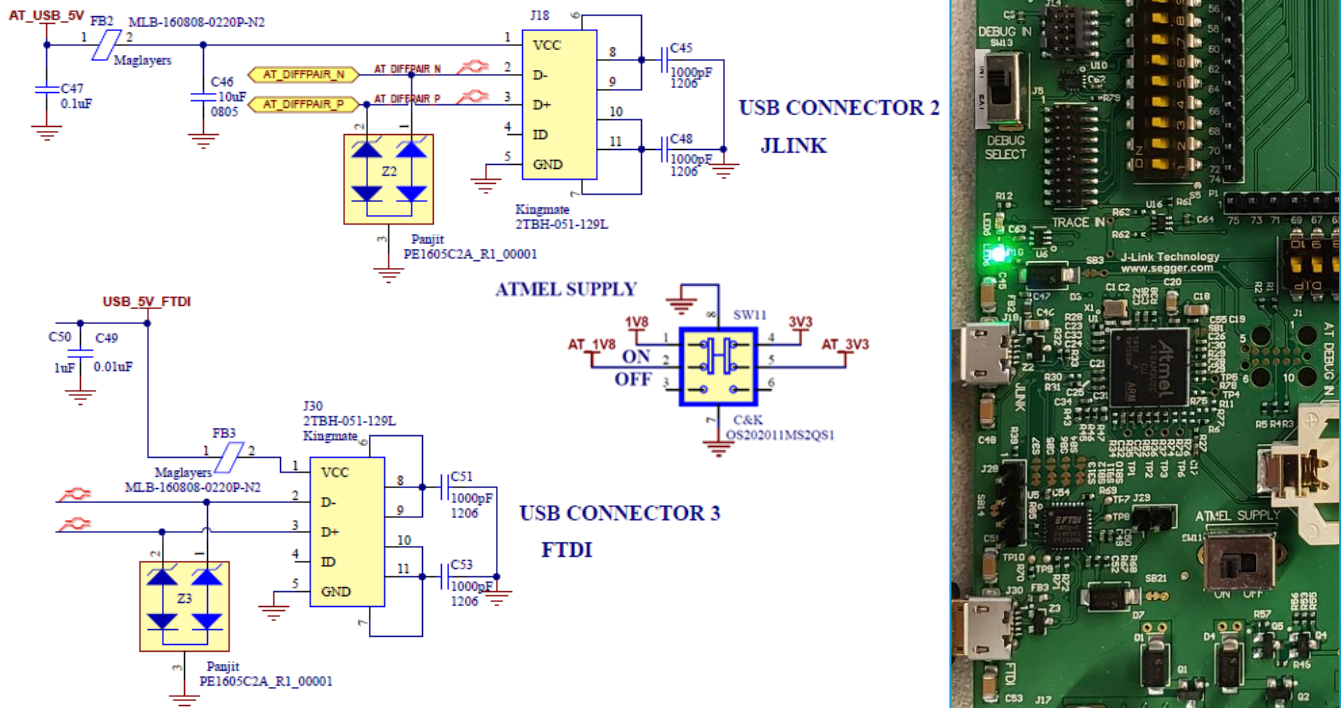

Figure 13: JLINK USB, FTDI USB, and ATMELE SUPPLY switch
- The internal SWD circuitry can also be connected to the modem. The DEBUG SELECT must be set to INTERNAL. The ATMEL SUPPLY switch, SW13, must be set to ON. USB cables must be plugged into J18 (JLINK) and J30 (FTDI), shown in Figure 13.